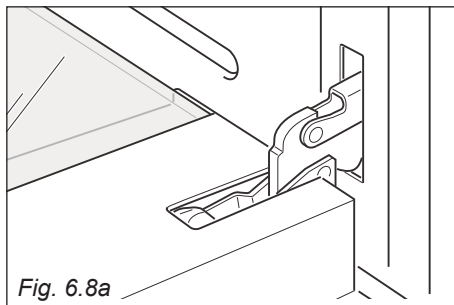

Fig. 6.8a
- Open the door to the full extent (fig. 6.8a).